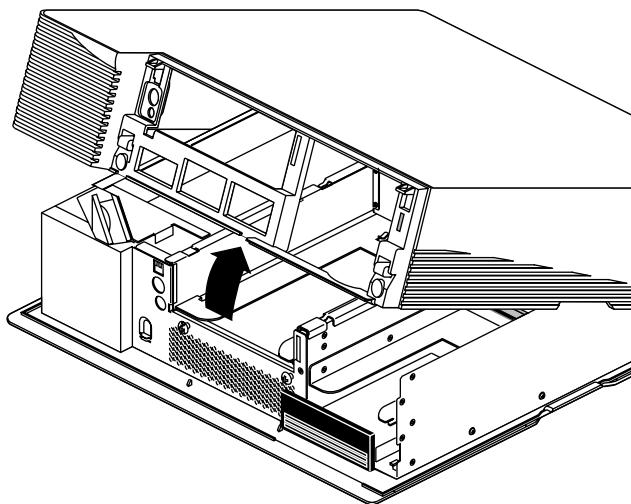

Figure 9-6 Removing the Top Cover
- Pull up on the cover and rotate it back and away from the chassis, as shown in Figure 9-6.